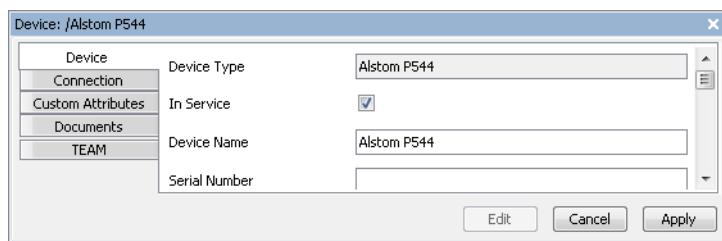

Figure 60 Device in Service
Step 4. Select the **Device** tab, press **Edit**, and select the **In Service** check box, as shown in *Figure 60*.